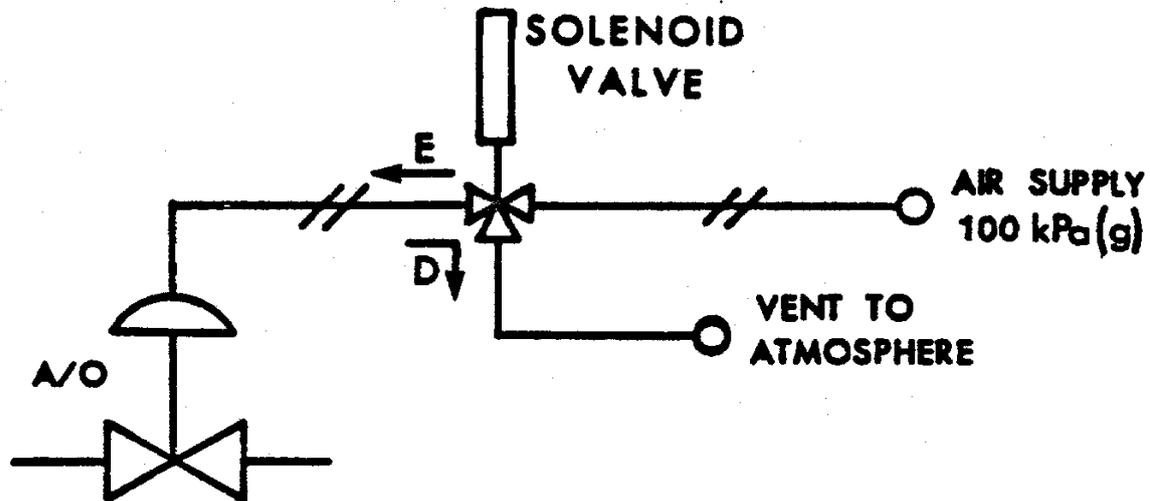

Figure 25: ON/OFF Application of a Solenoid Valve.
- Figure 25 shows an ON/OFF application of a three-way solenoid valve used to operate an air-to-open (A/O) pneumatically actuated control valve.